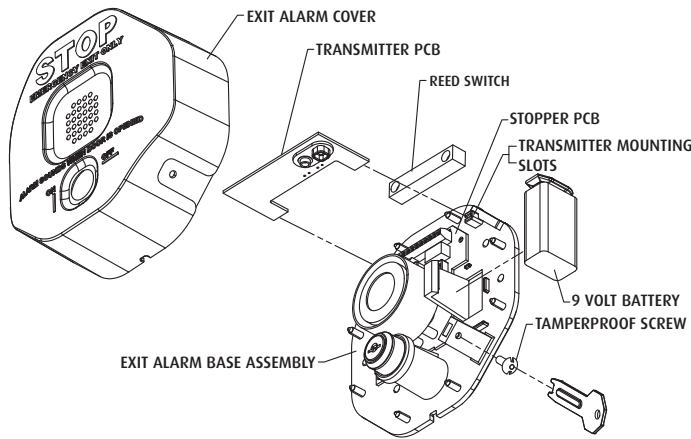

Figure 1
- (Fig. 1) Remove tamperproof screw and cover. Disconnect 9 Volt battery. Remove reed switch from mounting location letting it hang freely.